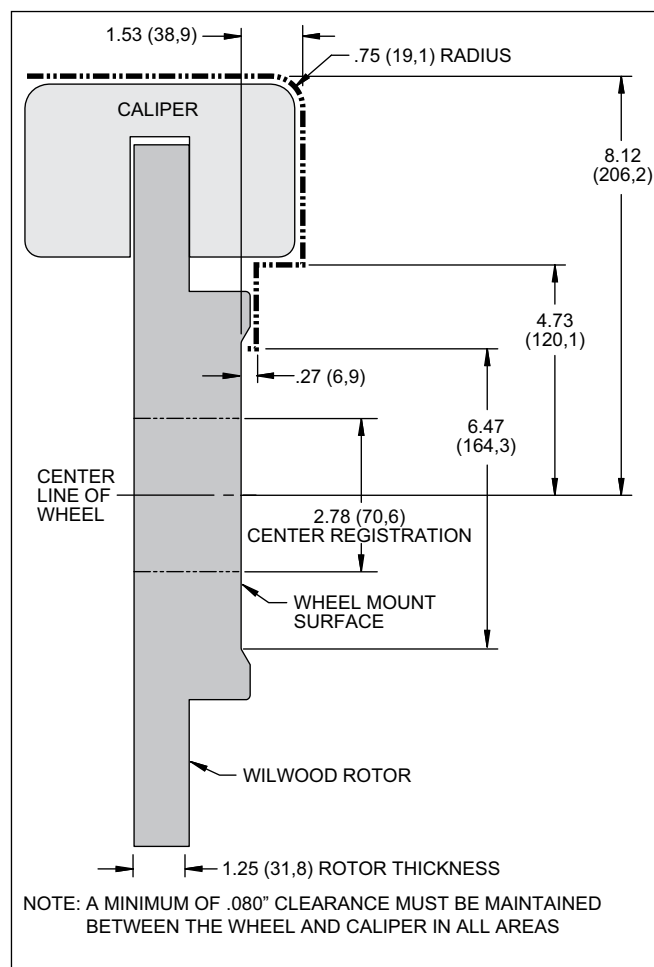

Figure 2. Wheel Clearance Diagram
- This kit will fit most 18" and larger wheels, please refer to wheel clearance diagram (Figure 2, page 3) for your specific requirements. For ALL other wheels, consult the wheel clearance diagram (Figure 2, page 3) to determine compatibility. Parts that have been installed may not be returned or exchanged.
•Verify your wheel clearance using Figure 2.